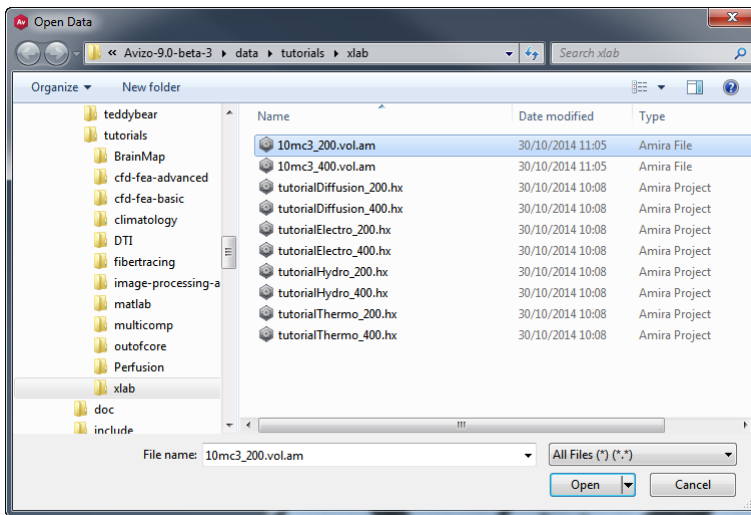

Figure 12.3: *Open Data...* dialog to load the data set of this tutorial. Choose the path to the data set, then select and open it.
- Open the `data/tutorials/xlab/10mc3_200.vol.am` file from `AVIZO_ROOT` directory (see Figure 12.3).